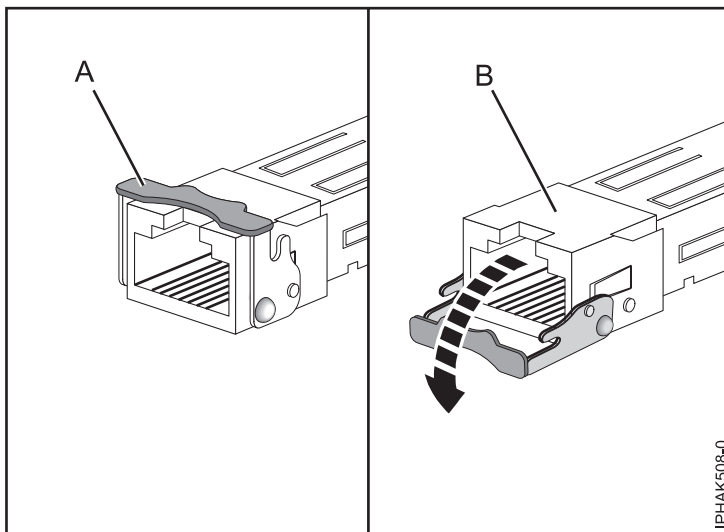

Figure 11. Removing SFP transceivers from adapters
Note: Some Ethernet or Fibre Channel adapter FRUs require the removal of the small form-factor pluggable (SFP) transceivers (if present) in order to remove the tailstock. With the card lying flat on a static-protective surface, open the latch (A) by rotating it down and away from the card as shown in Figure 11 on page 24. Slide the transceiver (B) out of the adapter hardware. Repeat for the other transceiver.